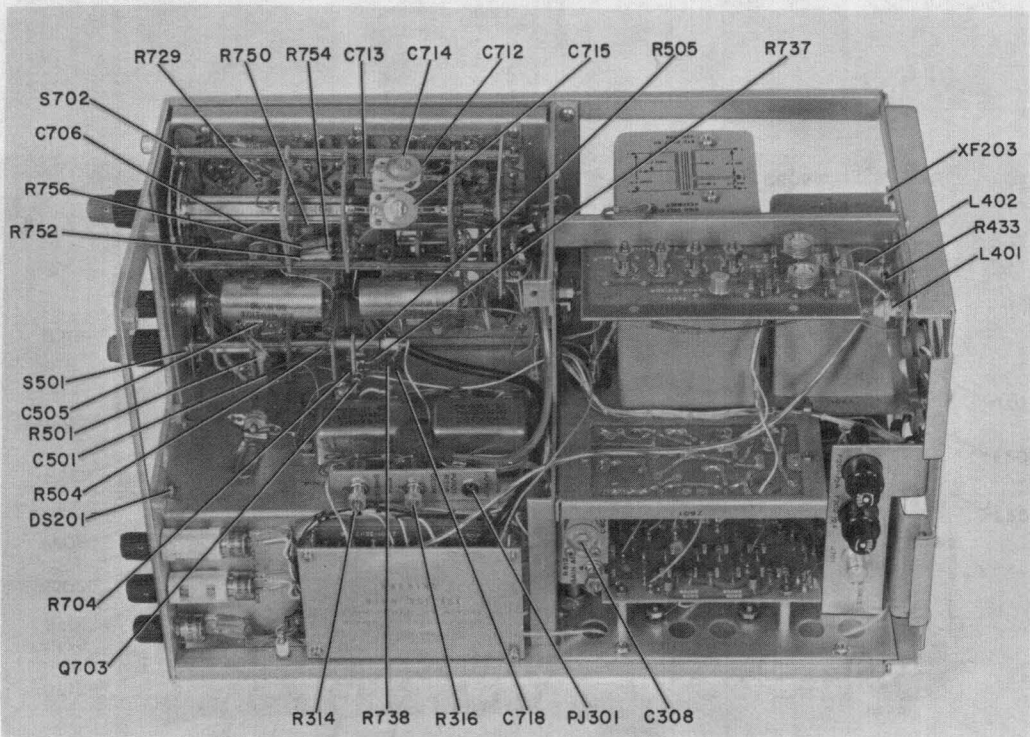

Figure 6-4. Oscilloscope AN/USM-117, only, Chassis
(7) FAST SWEEP TIMING. - Set the TIME/DIV switch to 1 u sec. Set the TRIGGER RATE switch of the generator to 100 kc and switch on the 1 u sec markers. Adjust C714 (Figure 6-4) until each marker coincides with a vertical line on the graticule.